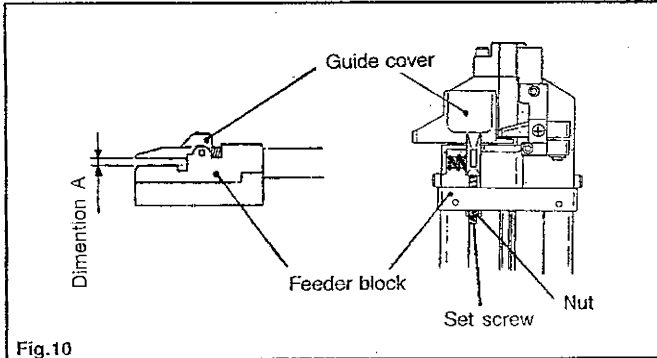

Fig.10
14. Adjusting the guide cover (Fig. 10)